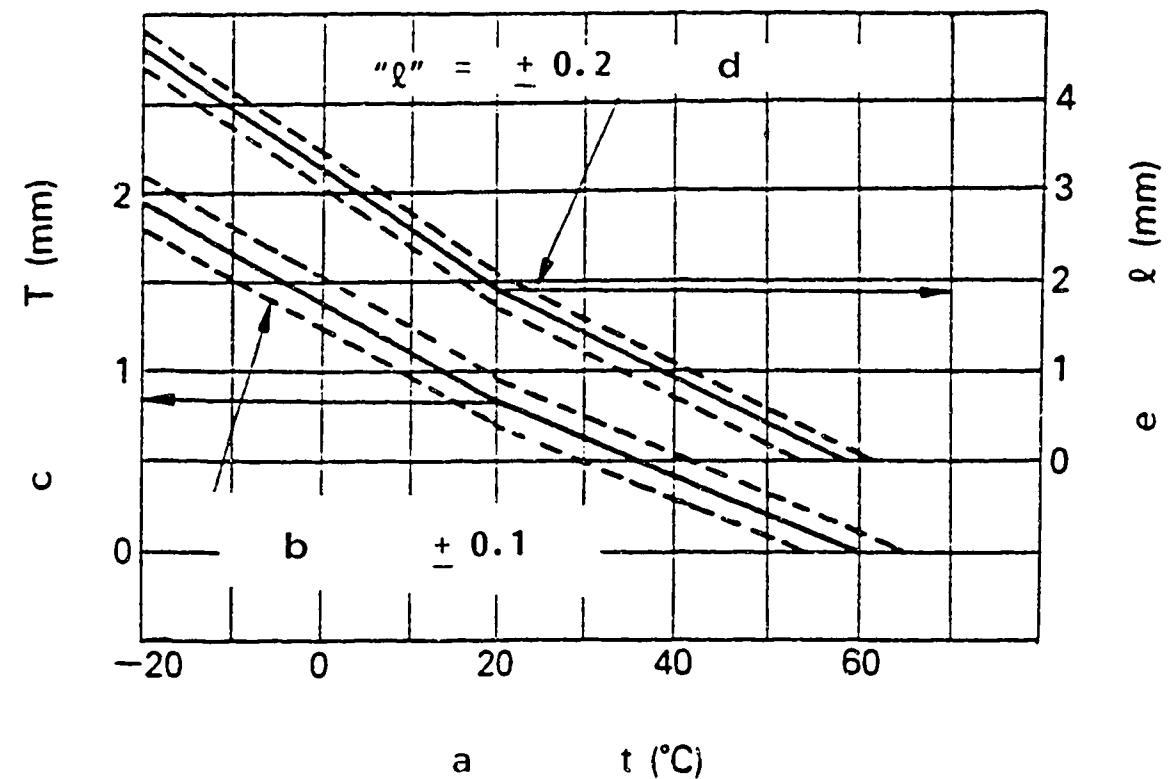

Fig. 35
- 1) Calculate the timer stroke from Fig. 35 according to the atmospheric temperature at the time of adjustment. Adjust using timer stroke adjusting screw (1) so that the timer stroke is as calculated in Fig. 35).
Formula for calculating (Fig. 35)
Insert the thickness gauge  $l = \pm 0.05$  mm, as shown in the diagram (Fig. 35), between the idling adjusting bolt (7) and the control lever (6), and tighten the idling stopper bolt (2) at the point where the roller of the CSD lever (3) touches the intermediate lever (4).